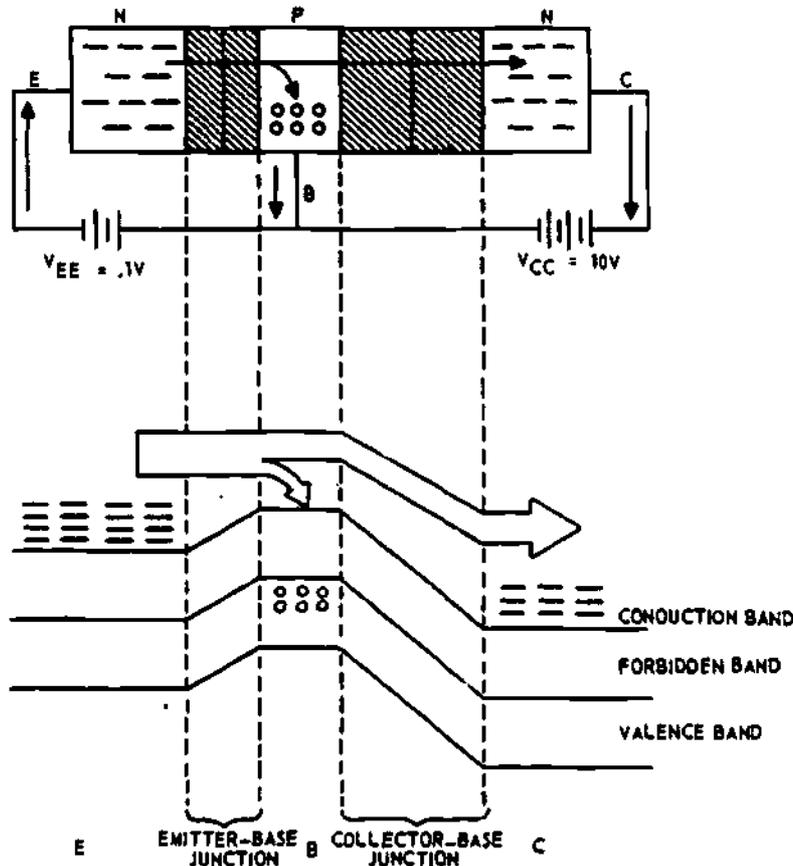

Figure 30-1
5. Figure 30-1 is a pictorial and energy level diagram of a properly biased NPN transistor. The 10V battery is connected so as to apply _____ to the collector base junction.
For questions 6 through 9 refer to figure 30.1.